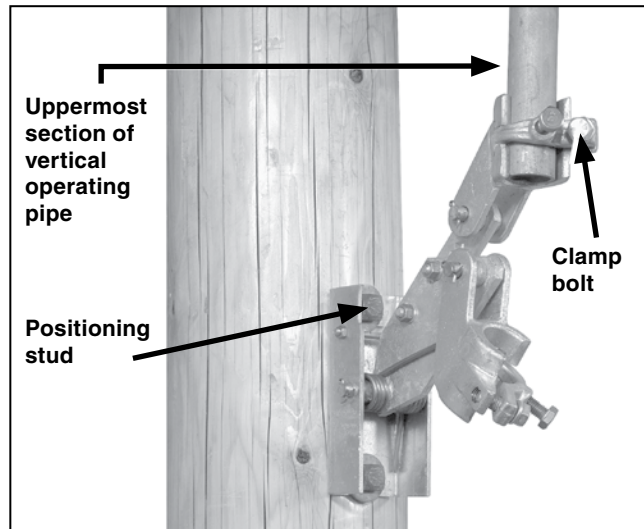

Figure 8. Installing the upper operating pipe section into the rod guide.
STEP 18. Install the upper section of vertical operating pipe between the switch drive lever and the uppermost rod guide, with the rod-guide arm pointing upward at a 45-degree angle. See Figure 8. (A positioning stud is furnished that holds the rod guide at 45 degrees.) Follow the directions in the “Installing Pipe Couplings with Piercing Set Screws” section on page 13.